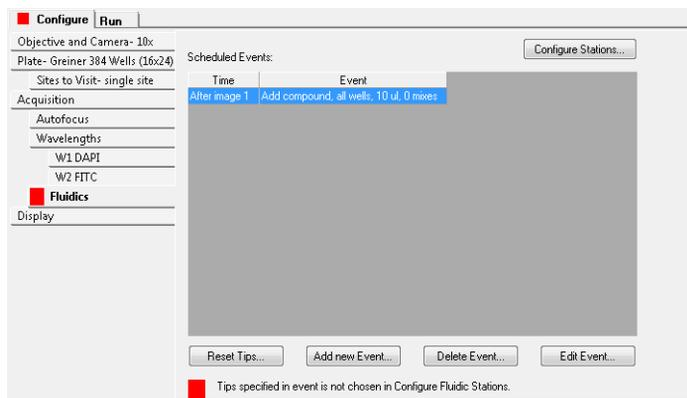

Figure 2-12: Adding events to a fluidics experiment
3. Under **Configure**, click **Fluidics** to schedule fluidics events. See Figure 2-12.